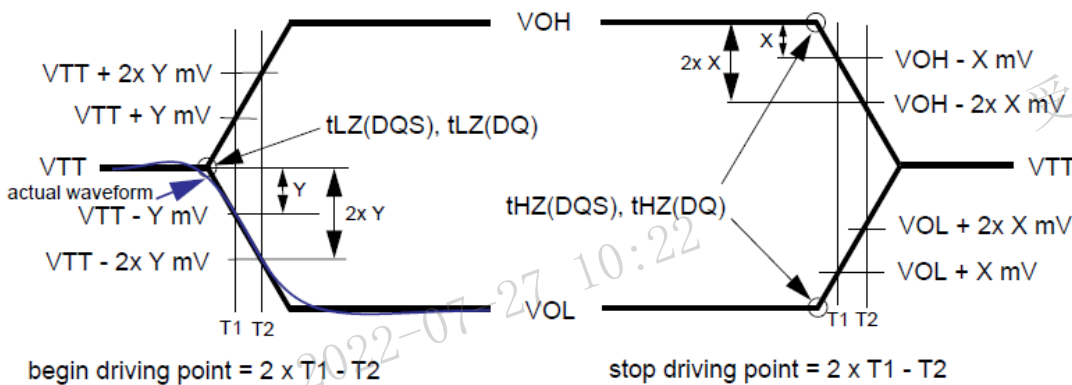

Figure 11-1. HSUL_12 Driver Output Reference Load for Timing and Slew Rate
- 12) For low-to-high and high-to-low transitions, the timing reference will be at the point when the signal crosses VTT. tHZ and tLZ transitions occur in the same access time (with respect to clock) as valid data transitions. These parameters are not referenced to a specific voltage level but to the time when the device output is no longer driving (for tRPST, tHZ(DQS) and tHZ(DQ)), or begins driving (for tRPRE, tLZ(DQS), tLZ(DQ)). Figure 11-1 shows a method to calculate the point when device is no longer driving tHZ(DQS) and tHZ(DQ), or begins driving tLZ(DQS), tLZ(DQ) by measuring the signal at two different voltages. The actual voltage measurement points are not critical as long as the calculation is consistent.